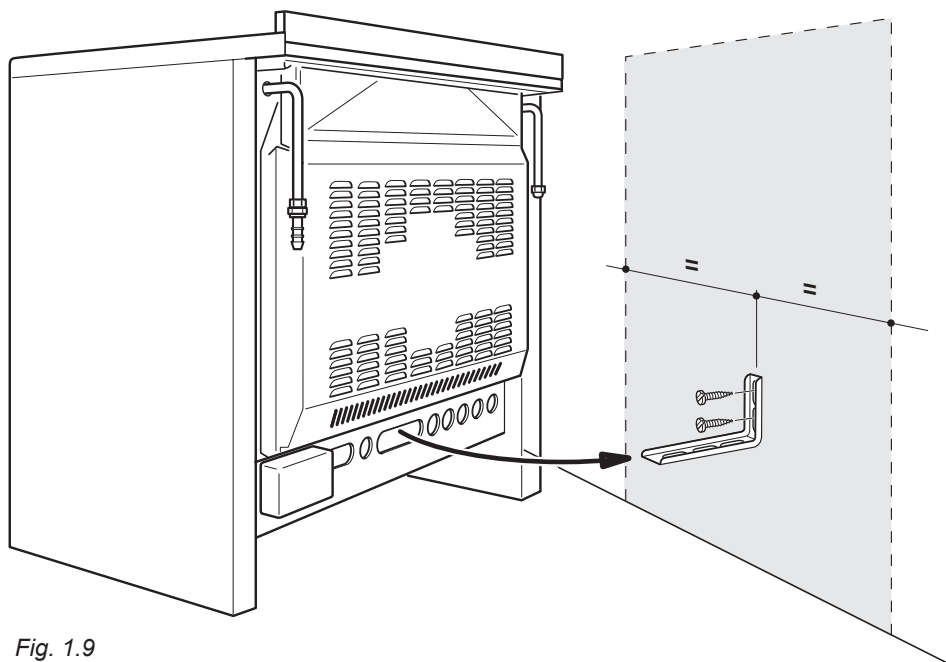

Fig. 1.9
1. After you have located where the cooker is to be positioned, mark on the wall the place where the 2 screws of the anti-tilt bracket have to be fitted. Please follow the indications given in fig. 1.9.
4. Move the cooker to the wall and adjust the height of the anti-tilt bracket so that it can engage in the slot on the cooker's back, as shown in fig. 1.9.